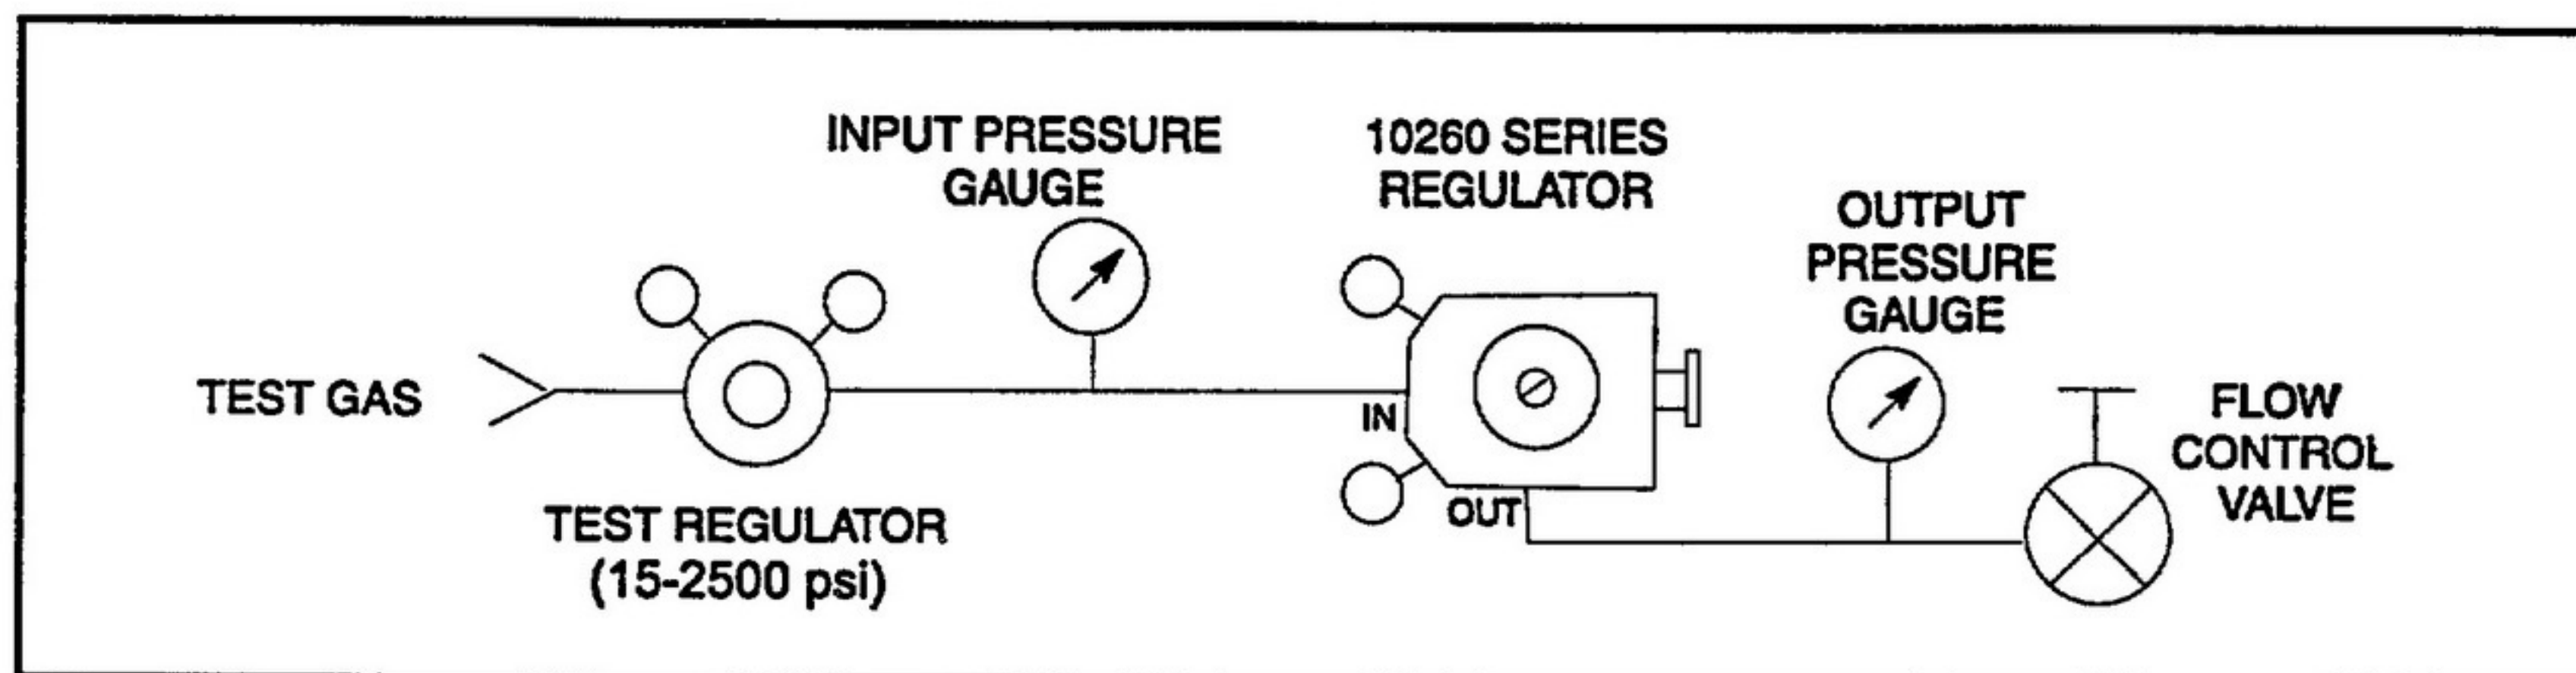

Figure 101: Test Set-up
The test procedures described in this section require the 10260 Series Oxygen Regulator Assembly to be connected to test equipment as shown in Figures 101 thru 103.
- (1) Attach regulator assembly to the test equipment as shown in Figure 101 and set flow control valve to the closed position (clockwise).
- (2) Adjust test regulator to 1800 psig (12.41 MPa) as shown on input pressure gauge.
- (3) Look at the oxygen gauge (60) and make sure that the pressure on the gauge is approximately the same as the pressure on the input pressure gauge attached to the test regulator.
- (4) Apply leak test solution (refer to Table 102) to the external connections of regulator assembly. There shall be no leaks for a period of two minutes.
- (5) Decrease test regulator pressure to 0 psig (0 MPa) as shown on the input pressure gauge, and relieve the pressure in test setup by slowly adjusting flow control valve to the open position.
- (1) Attach regulator assembly to test equipment as shown in Figure 101 and set flow control valve to the closed position.
- (2) Adjust test regulator to 150 psig (1.03 MPa) as shown on input pressure gauge.
- (3) Slowly turn the flow control valve 1/4 turn open (counterclockwise) then slowly return it to the closed position (clockwise) to permit a stable output pressure on output pressure gauge. Repeat if necessary.
- (4) Test the leakage past the regulator valve seat in the regulator assembly for a period of ten minutes. Leakage is shown by an increase of pressure on output pressure gauge, greater than 75 psig / 0.52 MPa (94 psig / 0.65 MPa for 10260-06 and 10260-08). There shall be no leakage.
- (5) Adjust the test regulator to 1800 psig (12.41 MPa) as shown on input pressure gauge.
- (6) Repeat steps (3) and (4).
- (7) Decrease test regulator pressure to 0 psig (0 MPa) as shown on the input pressure gauge, and relieve the pressure in test setup by slowly adjusting flow control valve to the open position.